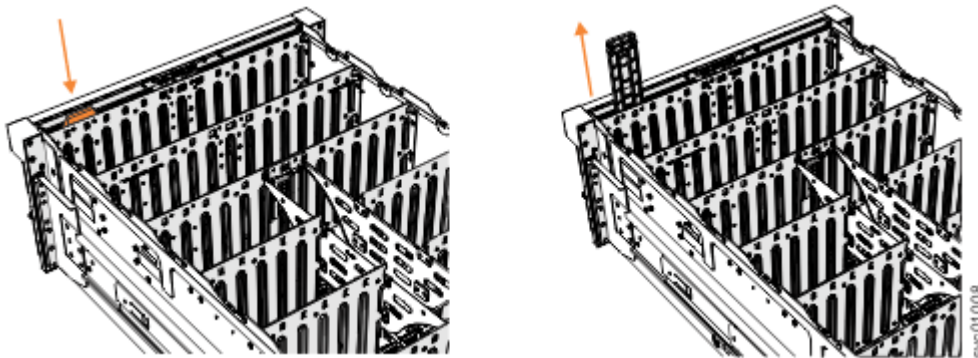

Figure 156. Removing the display panel assembly
3. Press the release tab at the top of the display panel assembly, as shown in Figure 156 on page 198.